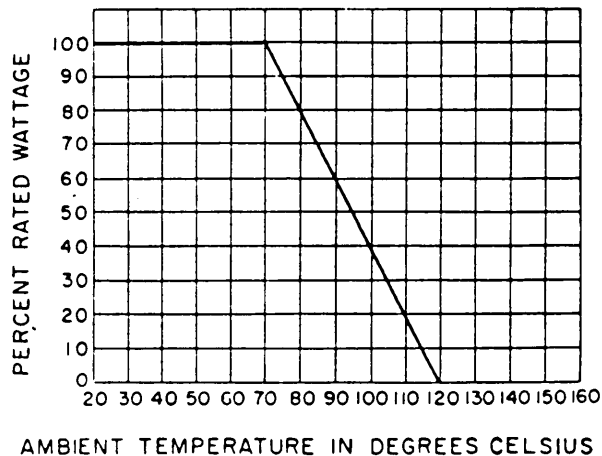

FIGURE 201-1. Derating for high ambient temperature.
2.1.3 Derating at high temperature. When a resistor is to be used where the surrounding temperature is higher than +70°C, it should be derated in accordance with figure 201-1.